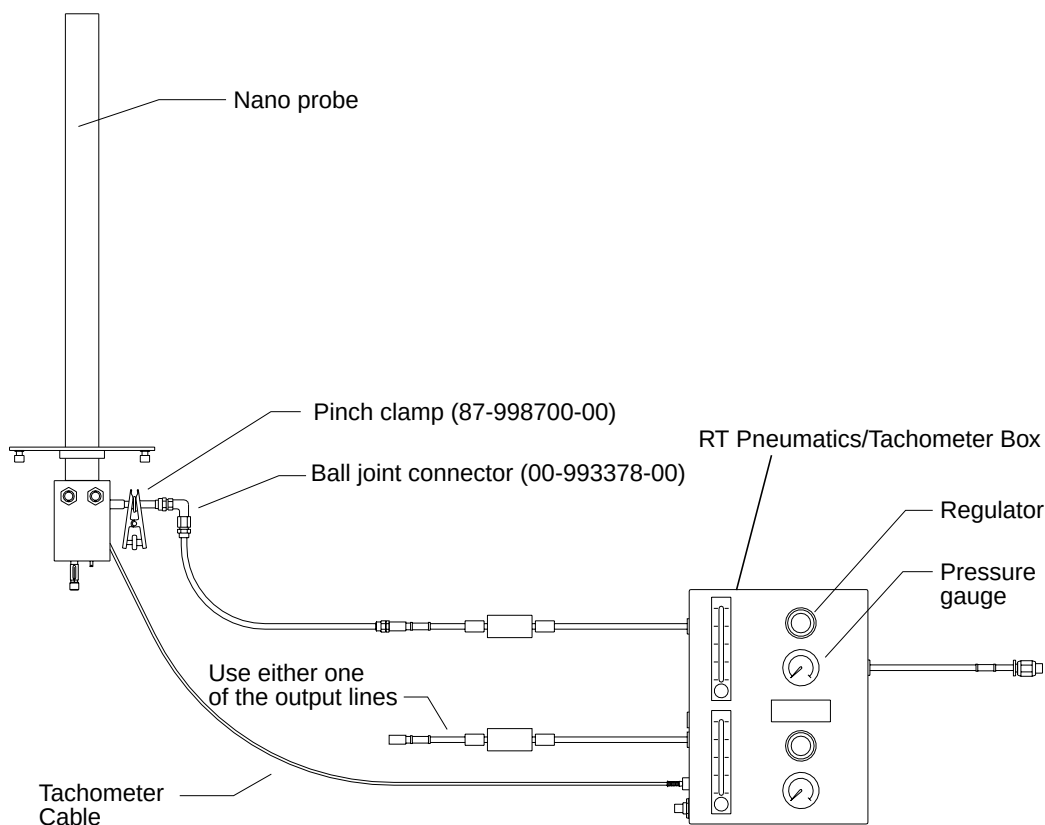

Figure 36. Nano Probe Pneumatics/Tachometer Connections
1. Attach a ball joint connector (Part No. 00-993378-00) to one of the output lines of the Pneumatics/Tachometer Box using the quick disconnect. Refer to Figure 36 as a reference. The Nano probe requires only one of the two output lines—either one works, but use the appropriate regulator and gauge to operate.